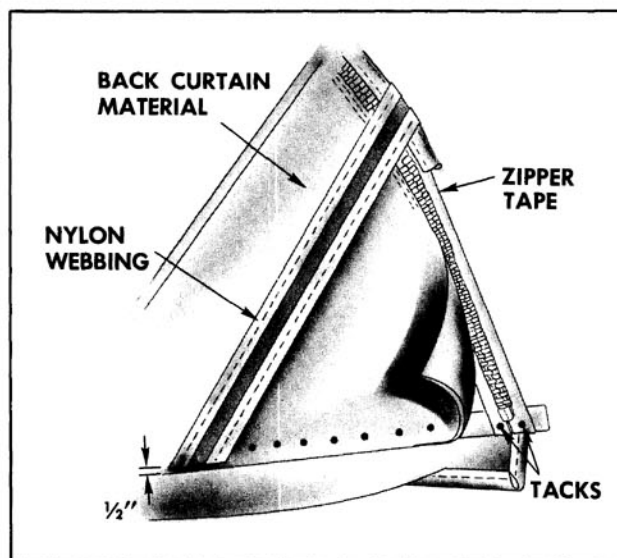

Fig. 16-442 Back Curtain Installation
8. Tack curtain to rear and rear quarter trim sticks. On right side, tack zipper tape to forward edge of rear quarter trim stick. (Fig. 16-442)